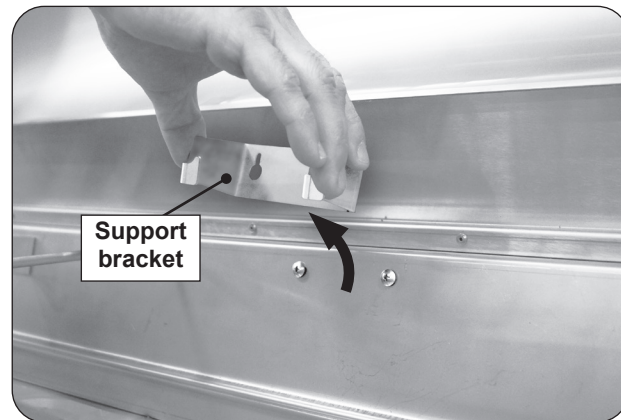

Fig. 27-1 Remove element support bracket
2. Locate the rear heating element support bracket and slightly loosen the two screws. Detach and remove the bracket by sliding it upward. See Fig. 27-1.